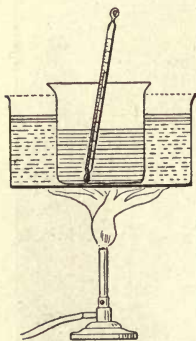

FIG. 229. — Method of Obtaining the Flashing Point of Kerosene.
**Flash Test.** — Half fill a 200 cc. beaker with kerosene, and place over water (Figure 229). Stir constantly with an accurate Fahrenheit thermometer and heat slowly until a small flame held over the mouth of the beaker causes a slight explosion and a blue flame. This is the flashing point and should not be lower than  $150^{\circ}$  Fahrenheit. A lower flashing point indicates the presence of hydrocarbons which have a low boiling point, such as gasoline, and that the kerosene is not safe to use in lamps.